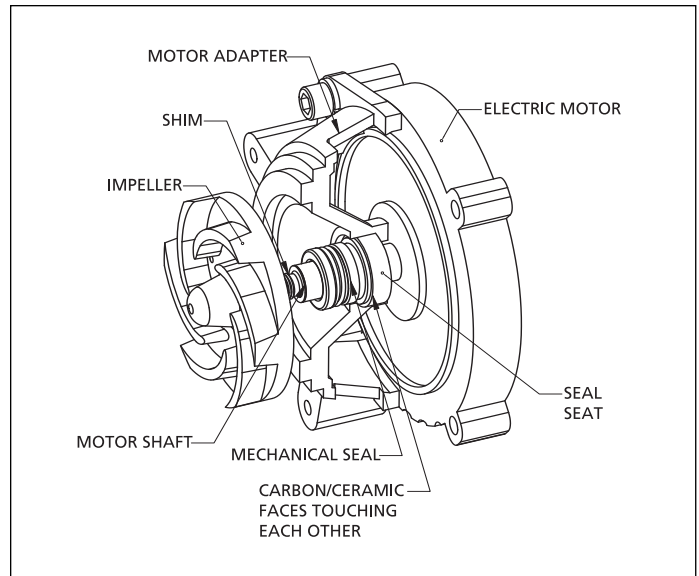

Figure 7 - Seal and Impeller Assembly
5. Wet the inside rubber portion of the new seal (Ref. No. 5) with a light coating of soapy water. Slide seal onto the motor shaft with the sealing surface (carbon) facing the seal seat (See Figure7). This completes seal installation.